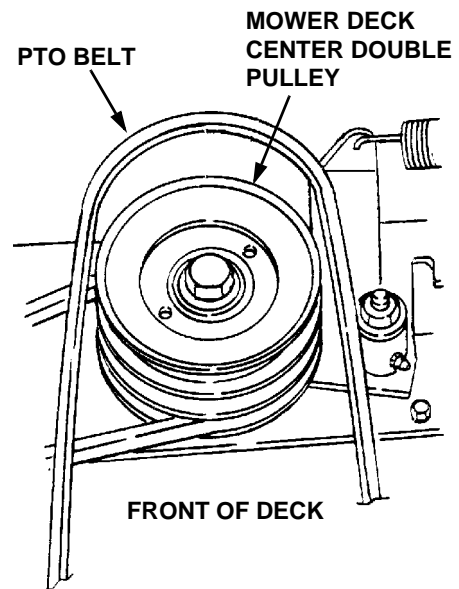
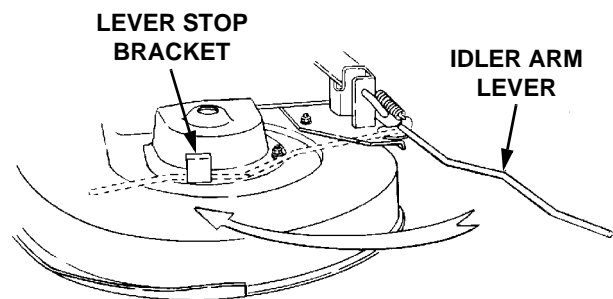

Figure 41
Figure 42
3. Remove the rearward end of the PTO belt from the upper pulley of the deck center double-pulley (Refer to Figure 41). Engage the deck idler arm lever back into its stop bracket (Refer to Figure 42).